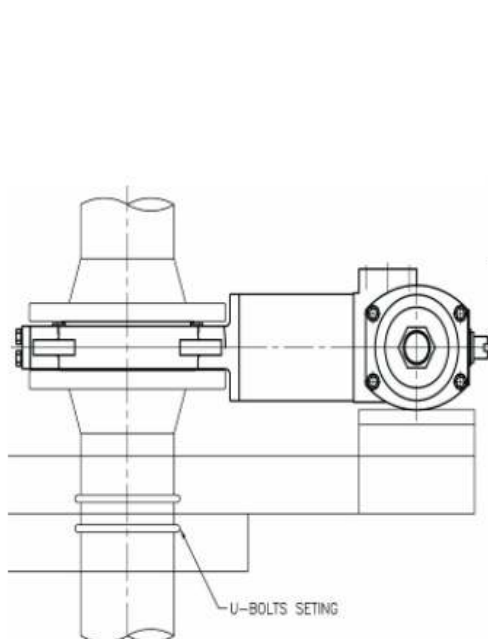

Fig 3.2 Installing Support
- Install the valve at right angle to the ground as much as possible. If this is impossible, attach a support to the valve before installing it. (See Fig 3.2 and 3.3)